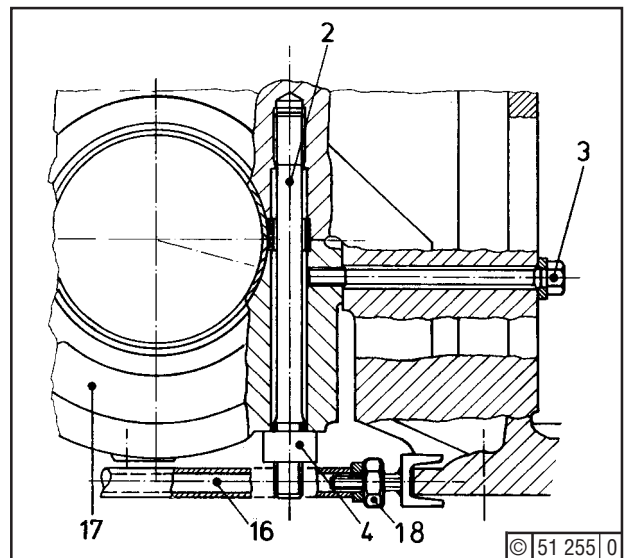
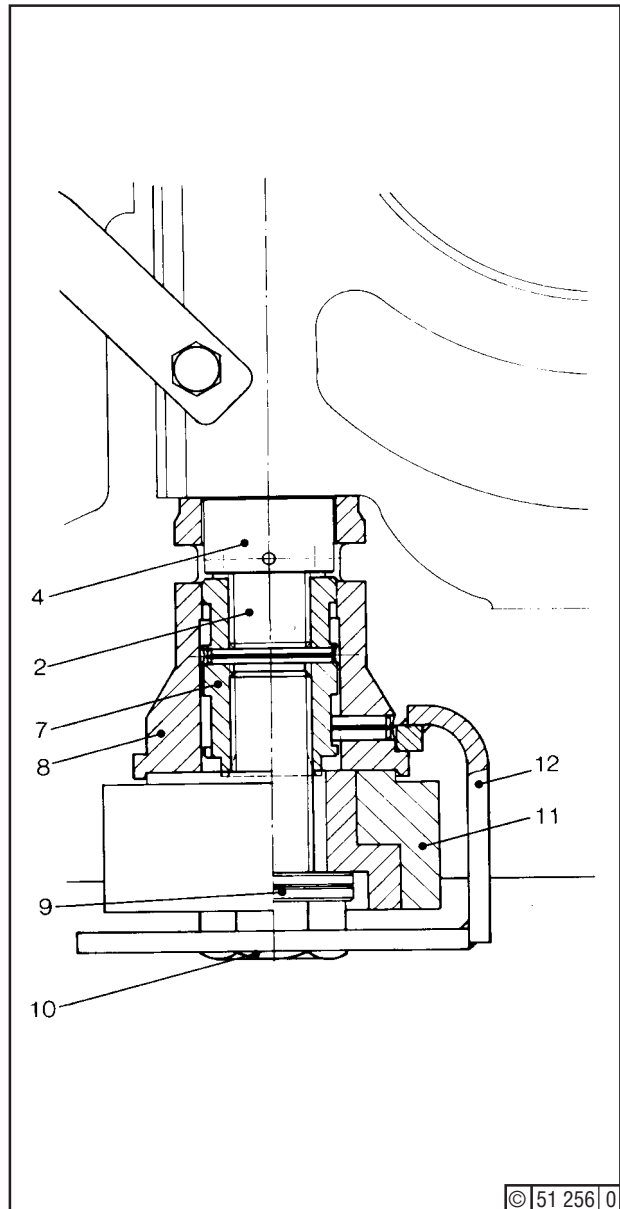
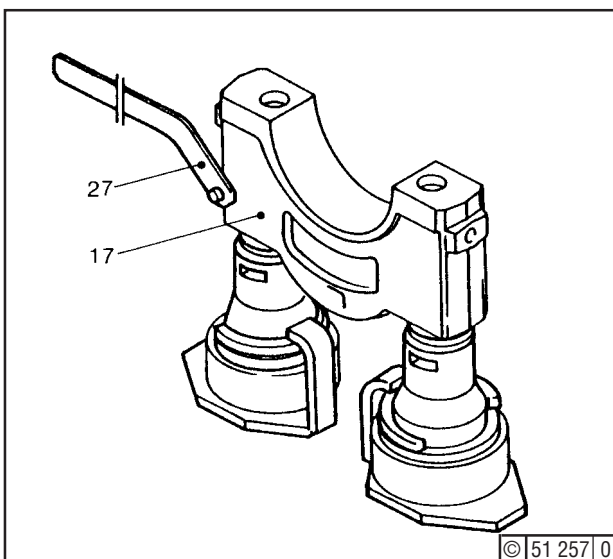

Fig. 1
Fig. 2
Fig. 4
Observe safety precautions (Job Card 02.00.01). Unscrew bolts (3) - Fig. 1 - on both engine sides. Fill two hydraulic tools with oil (Job Card 02.16.02) for releasing annular nuts (4) - Fig. 2 - . Procedure for releasing **one** nut (other side analogous); Screw clamping nut (7) onto stud (2) as far as it will go. Fit bush (8) onto nut (7). Push retainer (12) onto bush (8) and install hydraulic tool (11). By means of bolt (10) and washers (9), screw tool (11) together until the piston is flush with the cylinder end.
Check by mirror when pumping that the marking groove (Fig. 2) in the piston will not project beyond the cylinder.
Disconnect hoses from tools. Remove tools and push piston into cylinder until flush with the end. Fit lever (27) - Fig. 4 -. Unscrew nuts (4) - Fig. 1 -. Lower bearing cap onto a wooden board of about 10 mm thickness in the oil sump.
Should cap (17) resist lowering, use spreader (16) - Fig. 1 -. In this case, nuts (4) remain in situ. Release foundation bolts on the engine side having no fitted studs and expand crankcase slightly with spreader (16) by turning nut (18). Unscrew nuts (4) and lower cap with lever (27) - Fig. 4 - onto a wooden board in the oil sump, as described above.